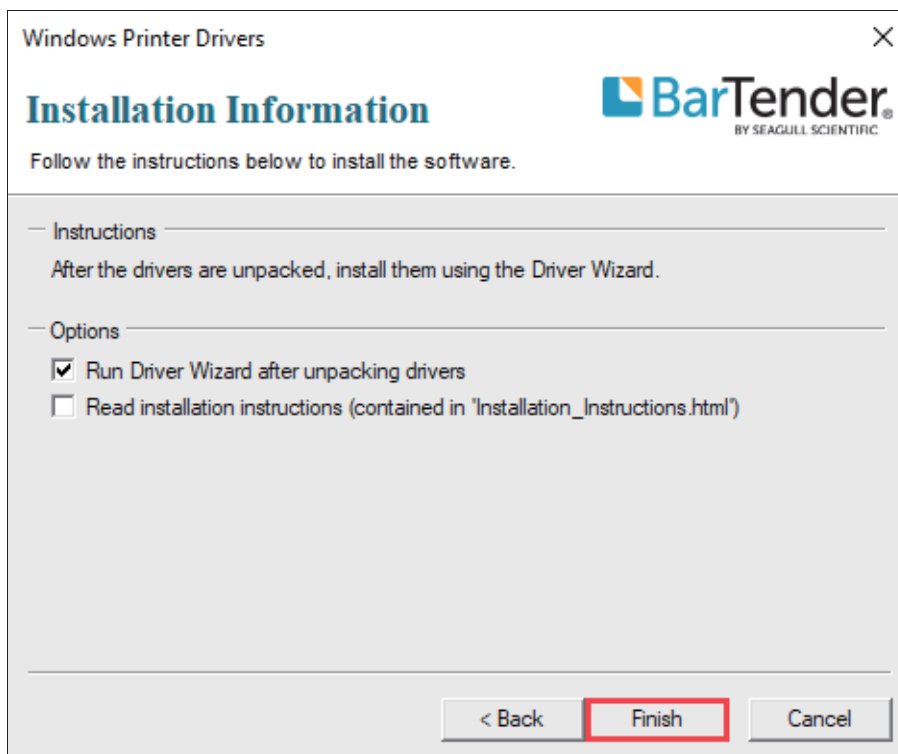

Figure 2-29 Installation Information Screen
5. On the “Installation Information” screen, check the box that says “Run Driver Wizard after unpacking drivers”, then click “Finish”, as shown in Figure 2-29.